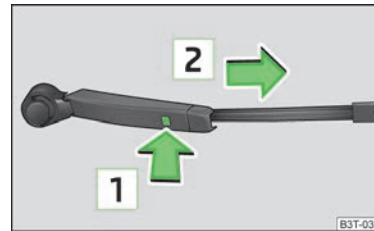

Fig. 49
- Fold the windscreen wiper arm away from the windscreen and position the wiper blade at a right angle to the wiper arm » Fig. 49.